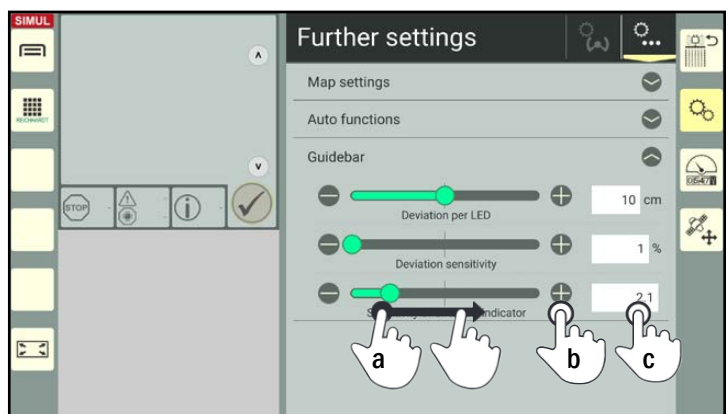

Fig. 318: Changing the values
- Entering them in the white boxes to the right (see Fig. 318).